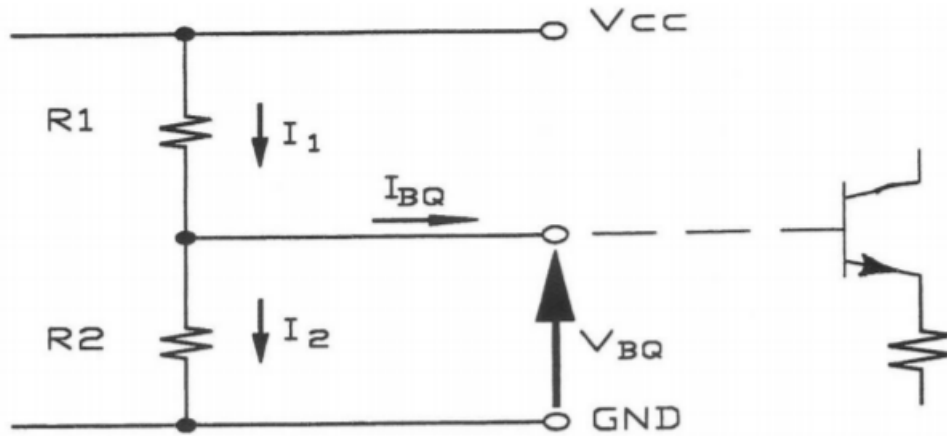

Figure 5: Base Bias Circuit
- (a) The base bias circuit is analyzed. Figure 5 shows the base bias circuit removed from the rest of the amplifier.